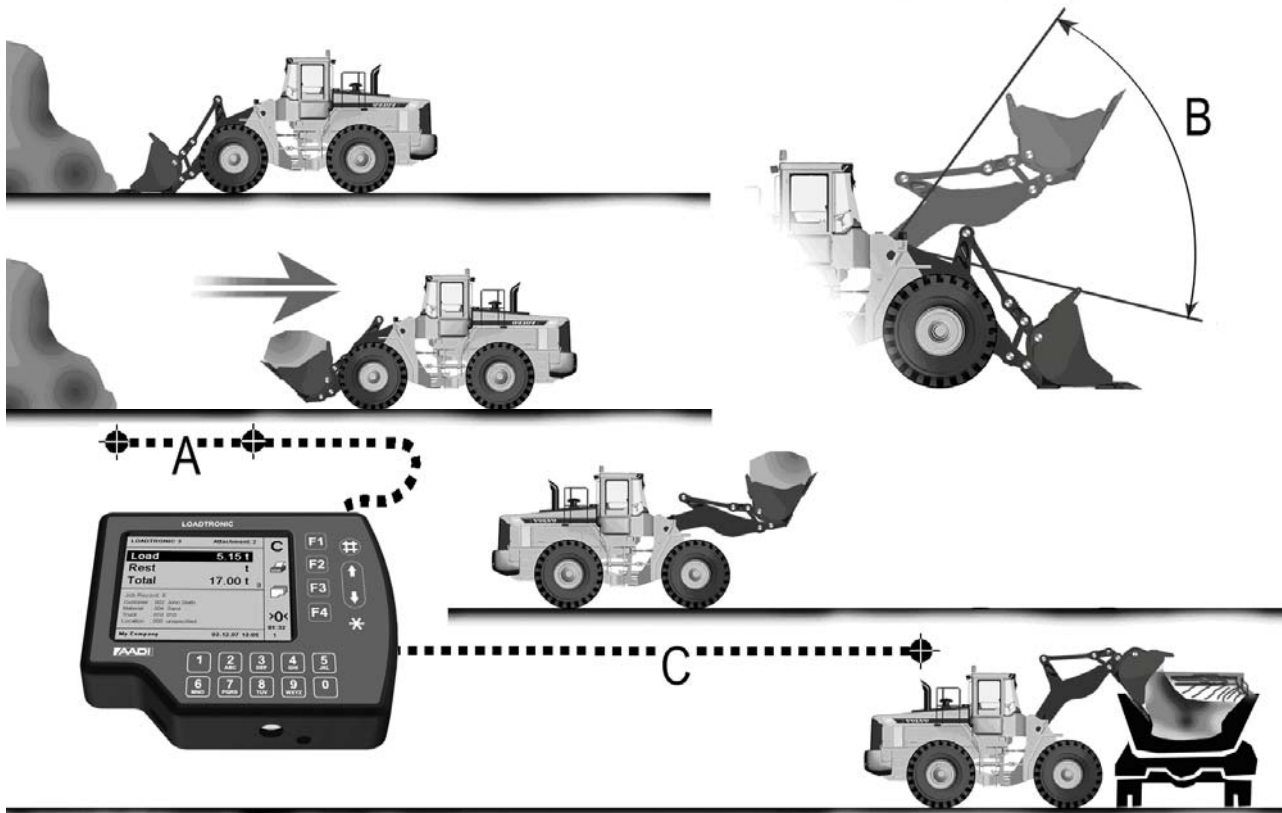

Figure 3-1 Automatic Weighing is connected to the normal working cycle.
Automatic weighing means that the operator can operate as usual; during normal operation the weighing sequence is activated automatically when the wheel loader is reversed out from the material heap after filling the bucket. Refer Figure 3-1 for an illustration.
- The lifting arms must be lifted into the measurement area, refer Figure 3-1.